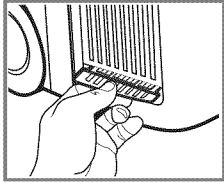

Fig. 1
1. Remove the **PUMP DRAIN CAP** by turning clockwise (Reverse thread). (Fig.1)